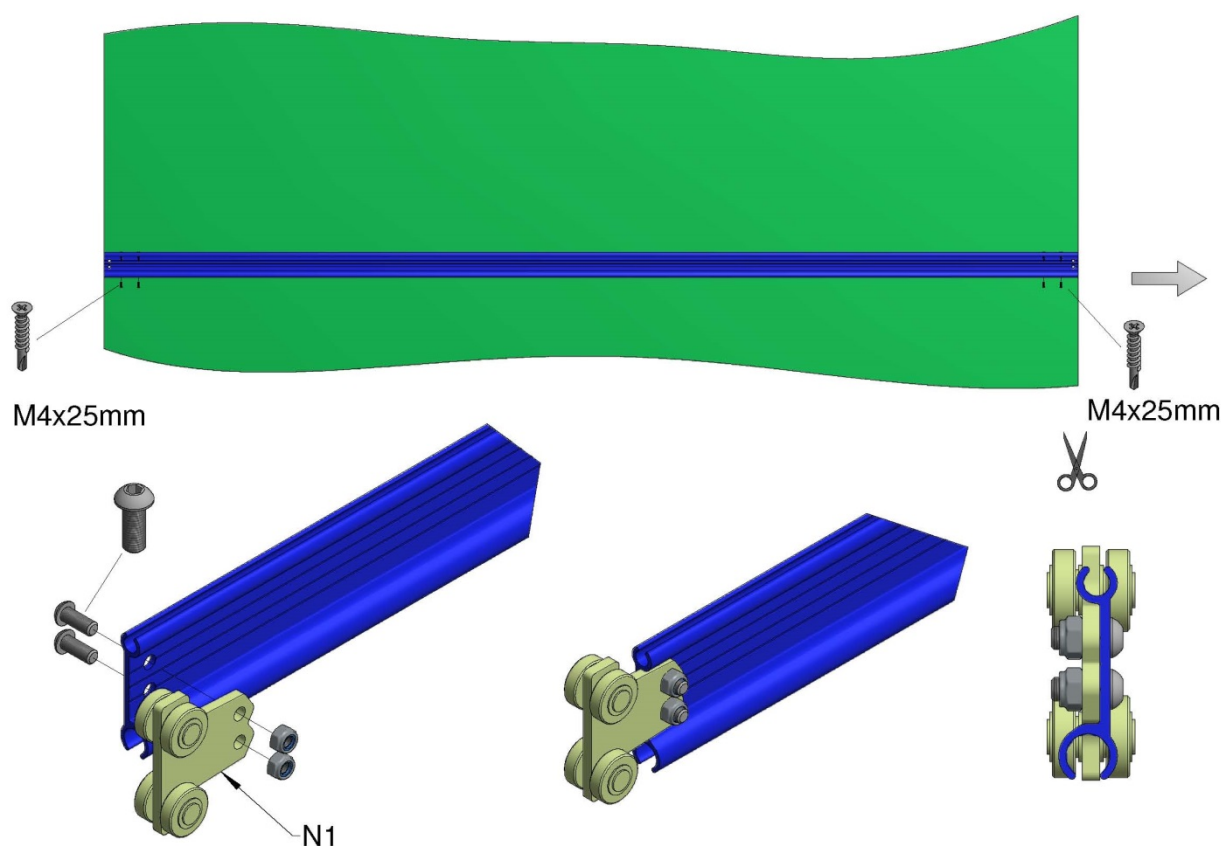

Figure 9, Securing Fabric
- Slide the second panel and tension bar onto the assembly, align the panel flush with the end of the first tension bar and secure with the M4x25mm countersunk screws. At the other end, tension the panel to remove any creases and secure with the M4x25 screws as shown in Figure 9. Repeat with the next tension bar and trim the panel to length.
- Attach a trolley (N1) to each end of the tension bar using the M8x20 dome head screws and Nyloc nuts. Ensure the trolleys are fitted as shown in Figure 9.